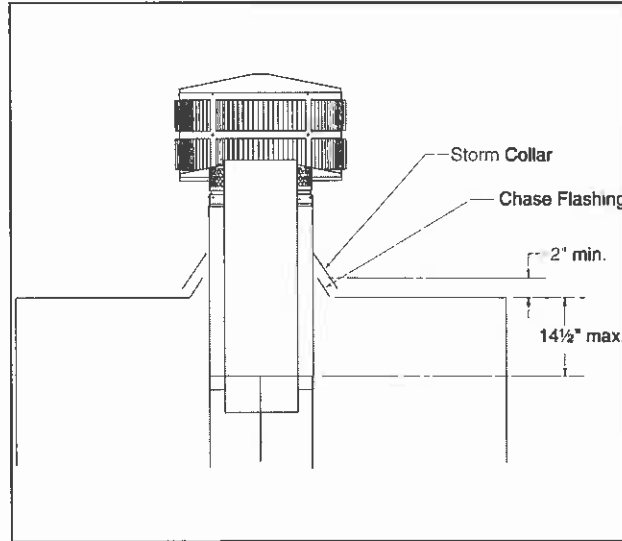

Figure 21 - Installing a TR11T Round Telescoping Termination Cap
- b. For installations utilizing a TR11T telescoping round termination cap, the uppermost chimney section must be below the top of the chase top, but not more than 14½" below the top of the chase top flashing collar. See Figure 21.